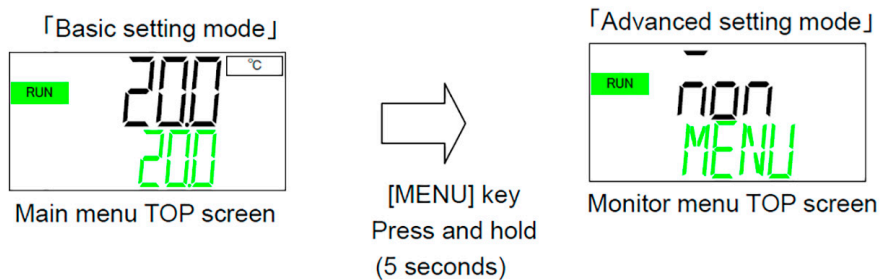

Figure 4-8. Advanced Setting Mode
1. From the Temperature Monitor screen long press the [MENU] button (5 seconds) to reach the advanced setting mode, see Figure 4-8.